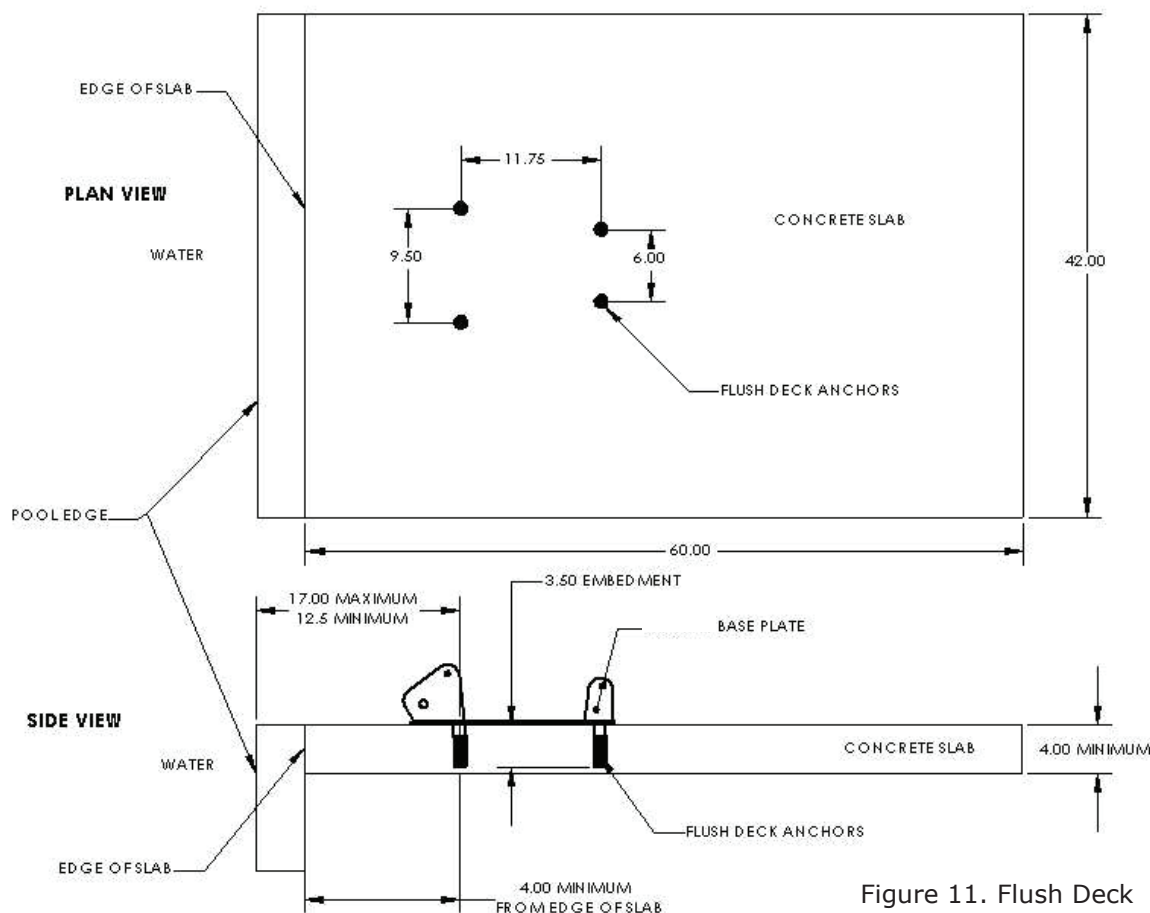

Figure 11. Flush Deck Anchor Installation Layout
- Slab dimensions should be at least 42" X 60" X 4", reinforced. See **Figure 11** above.